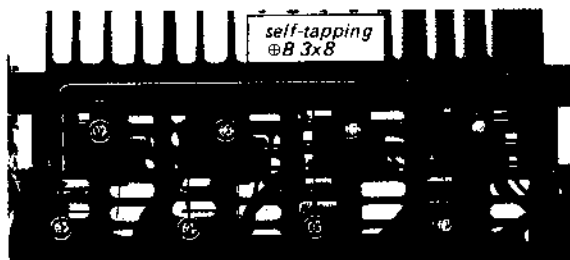

Fig. 2-15 Heat sink removal
3. Remove the four self-tapping screws ($\text{#B } 3 \times 8$) securing a pair of heat sink to the chassis as shown in Fig. 2-15.